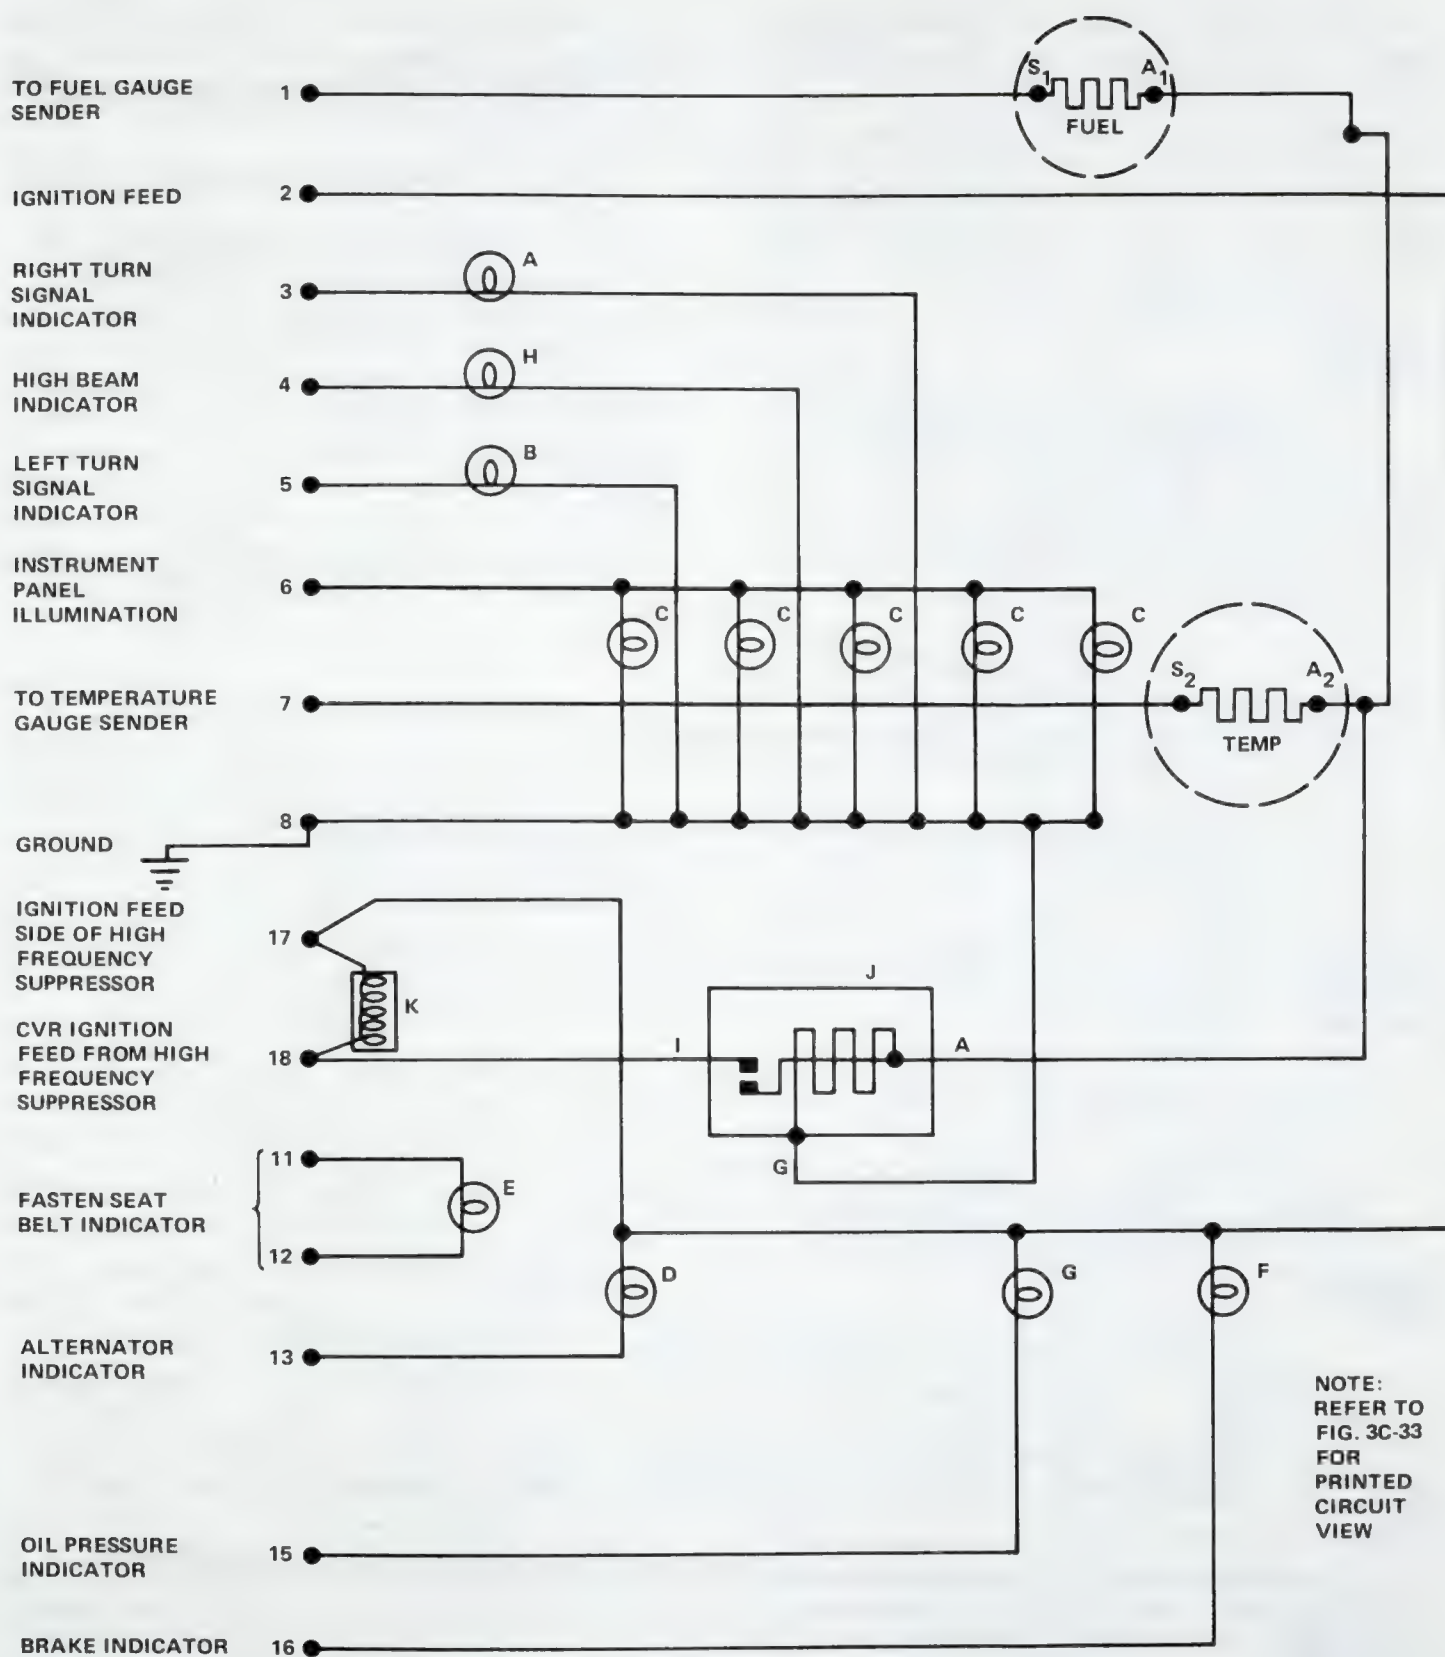

Fig. 3C-34 Instrument Cluster Circuitry
(1) Disconnect battery negative cable.
(2) Remove lower instrument finish panel (fig. 3C-35).
(7) Remove instrument cluster bezel.
(8) Remove crash pad attaching nut from stud located on back of instrument panel on lower left side (fig. 3C-36).
(9) Remove upper left screws attaching crash pad to instrument panel.
NOTE: On cars equipped with air conditioning, remove the right-hand duct from attaching bracket and lower the duct to gain access to the screw securing the crash pad to the instrument panel at the far right side (fig. 3C-35).